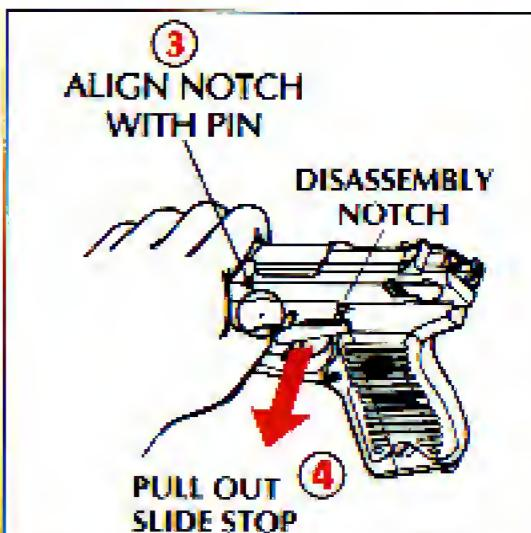

FIGURE 5A
- Remove fingers from ejection port. Grasp slide tightly. Now press down on slide stop and allow slide to move slowly forward until the slide stop spring retainer pin is aligned with the front edge of the slide stop notch. Press in on right-hand end of slide stop and pull slide stop out of frame to the left until it locks in its withdrawn position. (See Figure 5A, above). Do not attempt to pull it completely out of the frame. For the P94 pistol, press down on the slide stop and allow the slide to move slowly forward until the vertical index marks on the left side of the frame are aligned. (See Figure 5B, above)